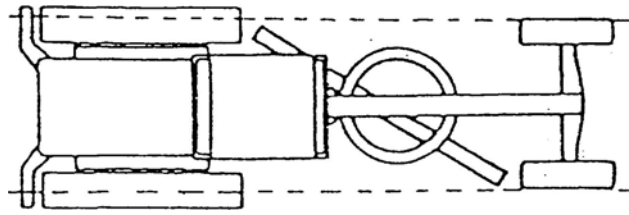

Fig.29
3) Set articulating steer, Front and rear wheels must be in line (Fig. 29)